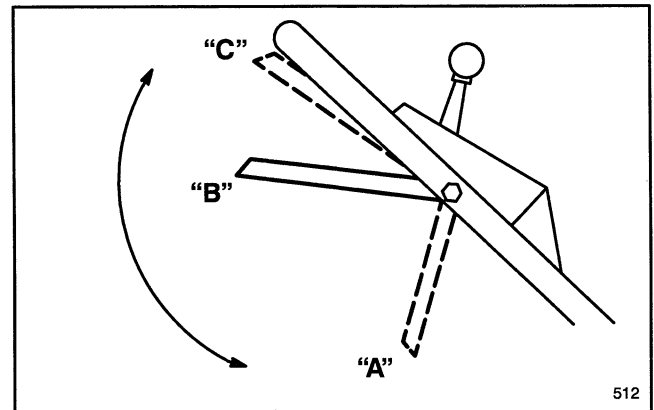

Figure 11
4. **BLADE AND TRACTION OPERATION** (Fig. 11)—When control bar is in position “A”, slide control bar to right and raise to position “B” to engage blade. Squeeze control bar against handle to position “C” to drive. To disengage traction drive but keep blade engaged, gradually release control bar to position “B”. To self-propel with blade disengaged, simply squeeze control bar against handle to position “C”, without sliding control bar to right.